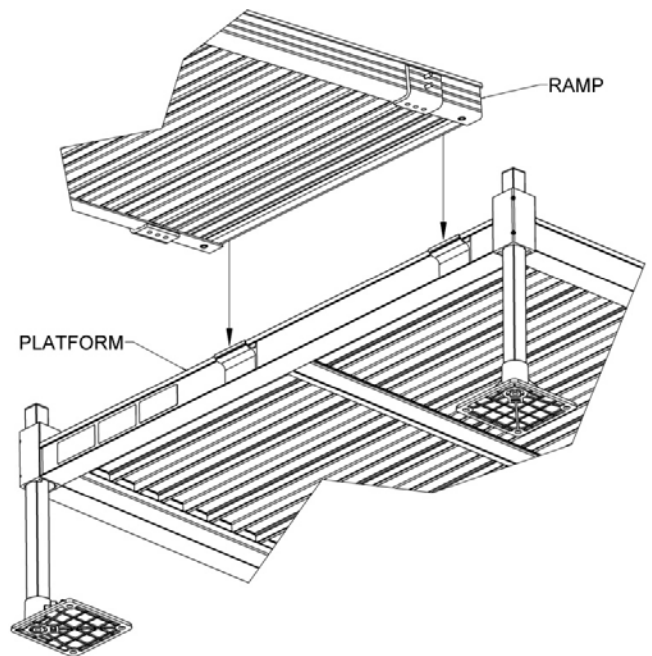

FIG. 3.4
- 3.2.5. Set the ramp on the hangers. The hangers should be positioned as close as possible to the ramp side rails. The procedure is the same at both the top and bottom of ramp runs which end at a platform unless a transition plate is used (FIG. 3.4).